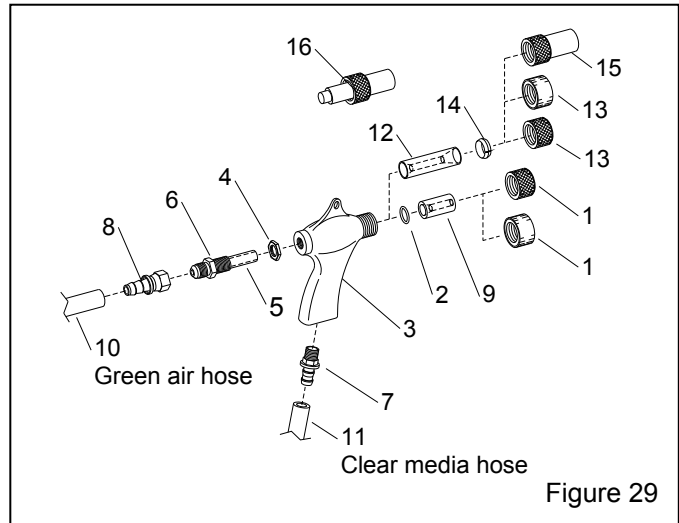

Figure 29
9.3 BNP Gun and Feed Assembly, Figure 29